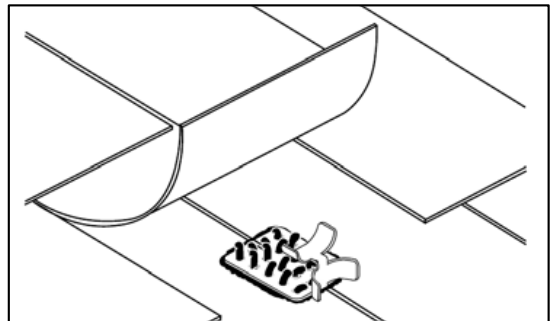

Figure 3.
4. Orient the BT-50 roof clip as needed. Press down to ensure adhesive/sealant flows through holes. Do not trim back adhesive/sealant beads because they help hold the clip down. See Figure 3.